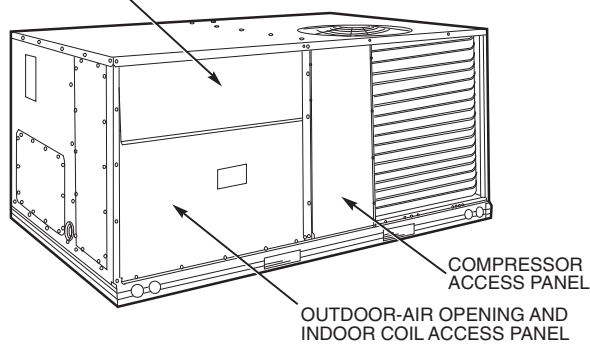

Fig. 15 — Typical Access Panel Locations
2. To gain access to the hood, remove the filter access panel. (See Fig. 15.)